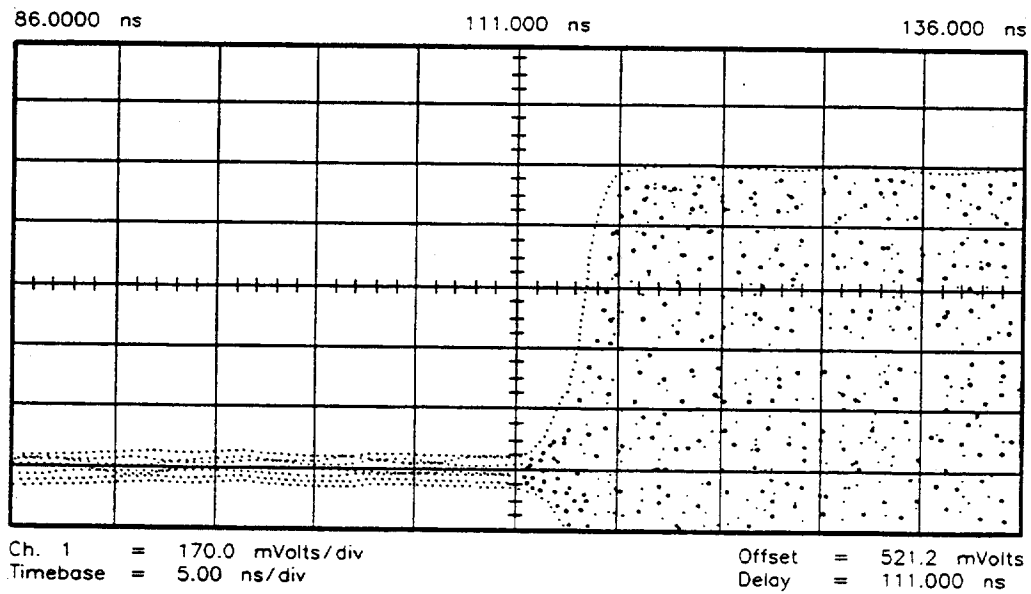

Figure 2-16. Pulse Envelope Displayed Over 5 Divisions
- b. Adjust the channel 3 volts/division and offset to obtain a 5 division signal level between the RF power off and the RF power on (see Figure 2-16).